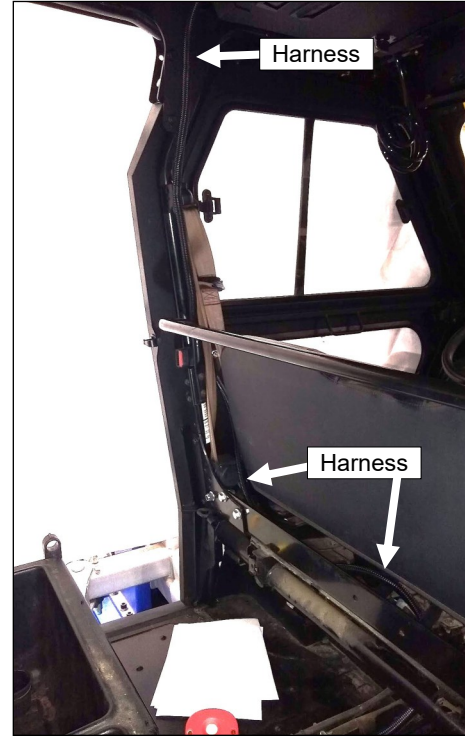

Fig. 5.2a Harness Routing
- 5.2 Route wire harness down the left side ROPS to the rear of the upper seatbelt attachment point. Continue down to the front of ROPS along the front side of vehicle crossmember. Feed harness through the hole in between the front seats down and rearward to battery compartment. See figures 5.2a and b.